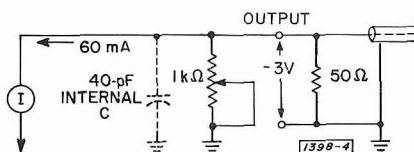

Figure 3-5. Equivalent circuit for achieving ultimate rise time.
and (2) the ultimate rise time can be realized only by termination of the instrument either externally by placing a $50\text{-}\Omega$ resistor across the output terminals, or internally by setting the output impedance to 50Ω (AMPLITUDE switch at 0.1, AMPLITUDE control centered), or both, as shown in Figure 3-5. Here the time constant of the output circuit is about 1.5 ns, and the fast rise and fall of the current pulse can be observed.